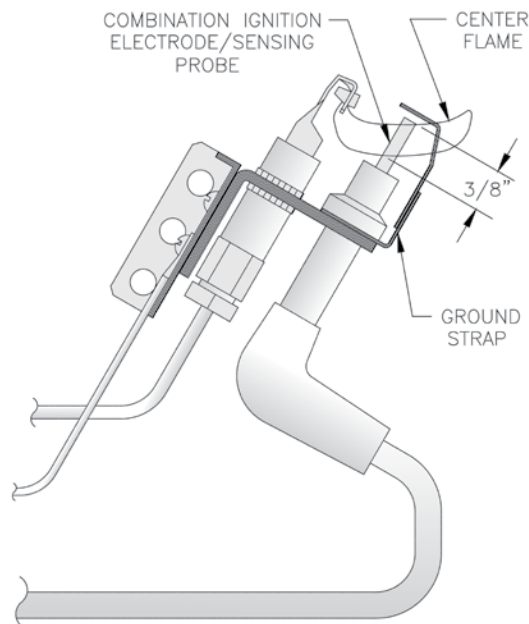

Figure 27: Typical Pilot Flame, Honeywell Q348A
C. Electronic Ignition (EI), see Figure 27.